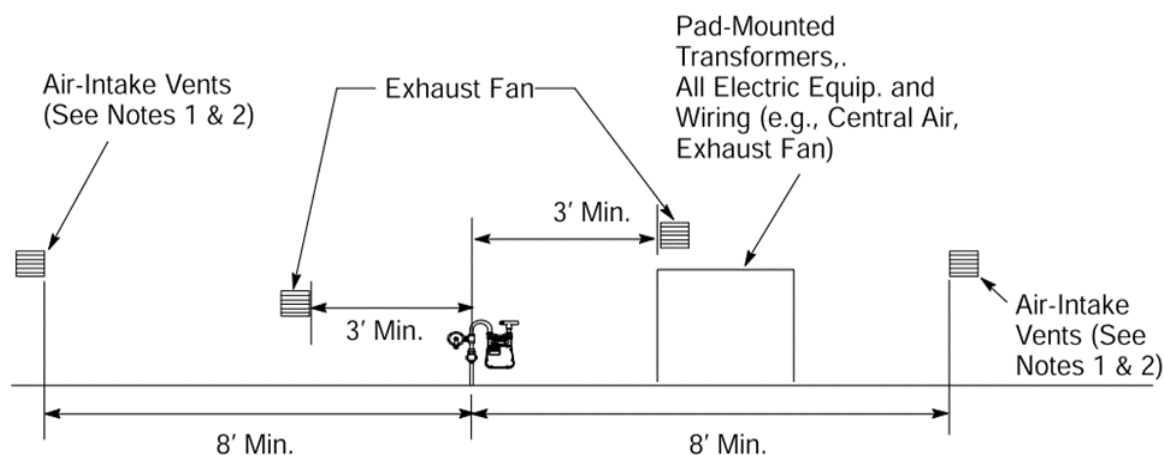

Figure 5. Requirements for Gas Meter Set Clearance from Air Intakes
C. Notes in reference to Figure 5:
- (1) An 8-foot minimum horizontal and 10-foot minimum vertical clearance is required from the gas service riser to air-intake vents, pulling air into the building.
- (2) For a large meter set or multimeter manifold, this clearance from air-intakes will extend 8-feet beyond the farthest PG&E meter equipment.